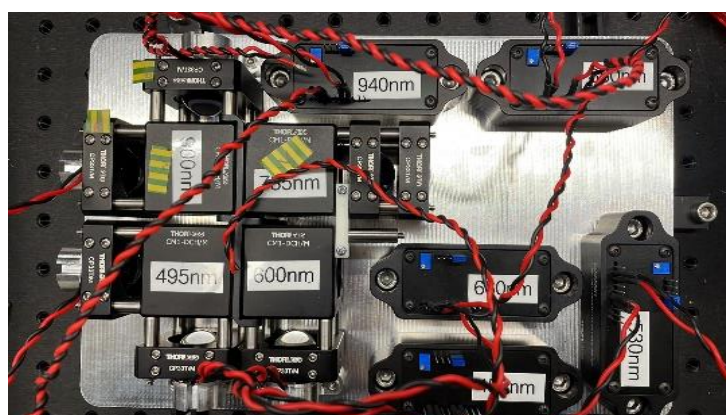

Figure 5 Mounted opto-mech, LED holders and drivers on the custom-made plate.
9. At this stage all the optical parts should be mounted on the metal plate as shown in Figure 5.